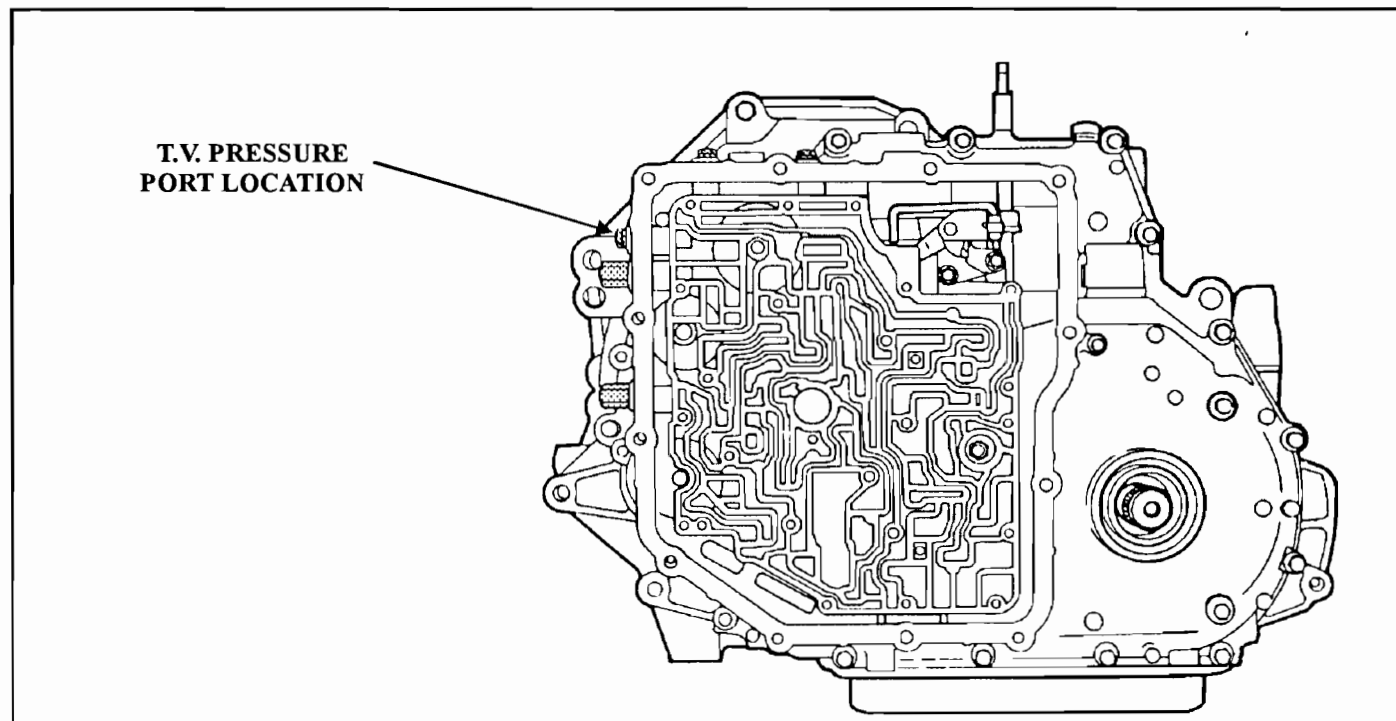

Figure 19
1. Install a 0-100 lb. pressure gauge into the T.V. pressure port, which is located on the side of transaxle as shown in Figure 19, and set the T.V. cable so that T.V. pressure reading is between 12-16 PSI.